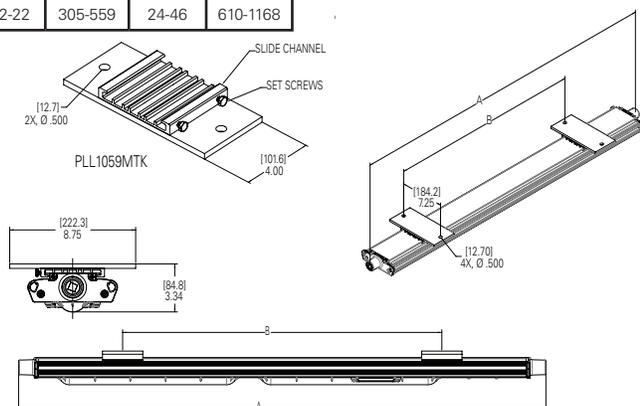

Figure 12
2. Mark and drill holes for fastening PLLA1059MTK brackets. Use four (4) 3/8" bolts (not supplied) at center-to-center measurements (see Figure 12). For PLLA1059MTK brackets, holes may be spaced as required. It is recommended to keep them at least 12" (305mm) apart (see Figure 12).
3. Fixture is now ready for mounting. It is strongly suggested to use two (2) qualified tradespeople to proceed with the final mounting of the fixture. This is recommended to avoid any personal injury or damage to the fixture.
5. Tighten the four (4) 1/4" set screws on slide channels until they bottom (see Figure 12). Torque to 78 in.-lbs. (8.8 N-m).